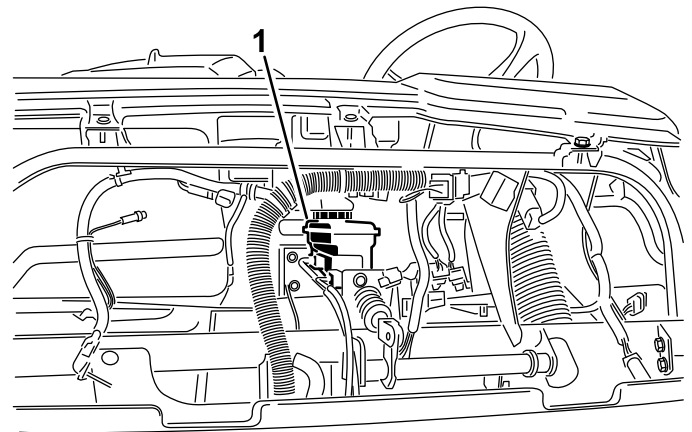

**Figure 21**
2. The fluid level should be up to the Full line on the reservoir (Figure 21).